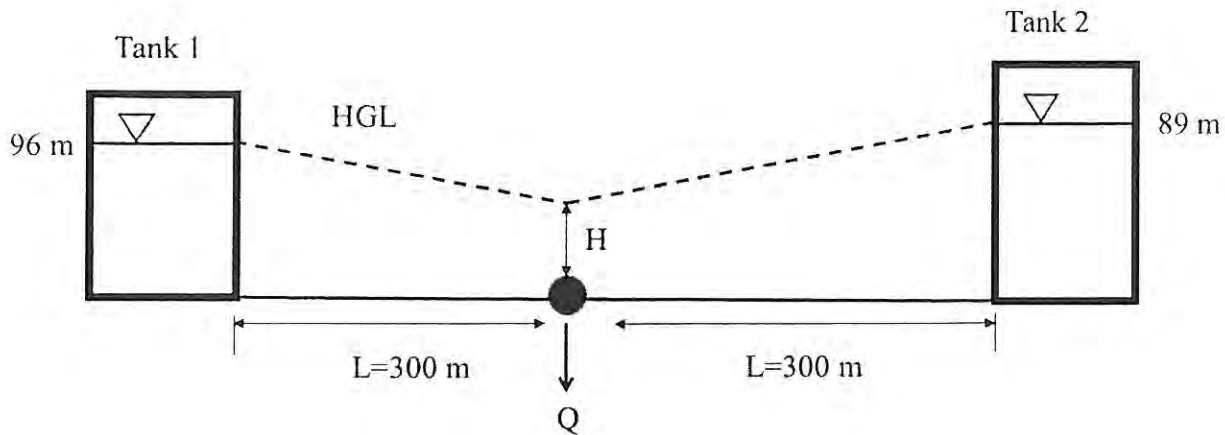

Figure 4. Water supply system.
- Two elevated tanks supply water to a demand node with a valve at its outlet (Figure 4). The elevated tanks are cylindrical and have diameters of 5 m. The initial water level in Tank 1 is 96 m and the initial water level in Tank 2 is 89 m. The valve is half open and has a discharge coefficient of $0.10 \text{ m}^{5/2}/\text{s}$. The initial steady-state flow through the valve is 300 L/s. The valve discharges to the atmosphere. Both pipes have a Hazen-Williams 'C' factor of 110, an internal diameter of 250 mm, and a length of 300 m. Assuming quasi-steady conditions in the system, determine the pressure head at the demand node and the flow in the pipes in the first three time steps of the simulation. Use a time step of 10 seconds to carry out the quasi-steady state simulation.